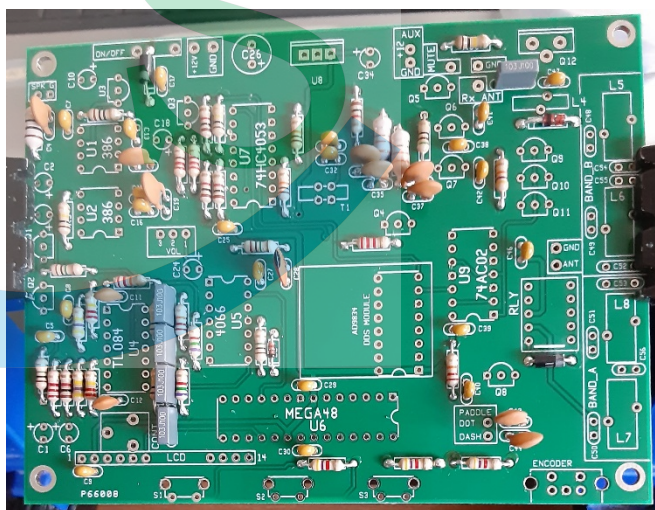

Figure 5
In keeping with the traditional methodology of installing components shortest to tallest, I sorted and installed the disc and film capacitors next. Out of the forty-seven capacitors installed in this group, twenty-one are of one type – a 0.1 μ F (104) MLCC type. There are five 0.01 μ F (103) film capacitors, nine 0.001 μ F (102) disc capacitors, one 100pF (101) disc capacitor, and two 470pF (471) disc capacitors (Figure 5). The astute reader will have noticed that this listing accounts for only thirty-eight of the total forty-seven non-polarized capacitors. Here’s why...